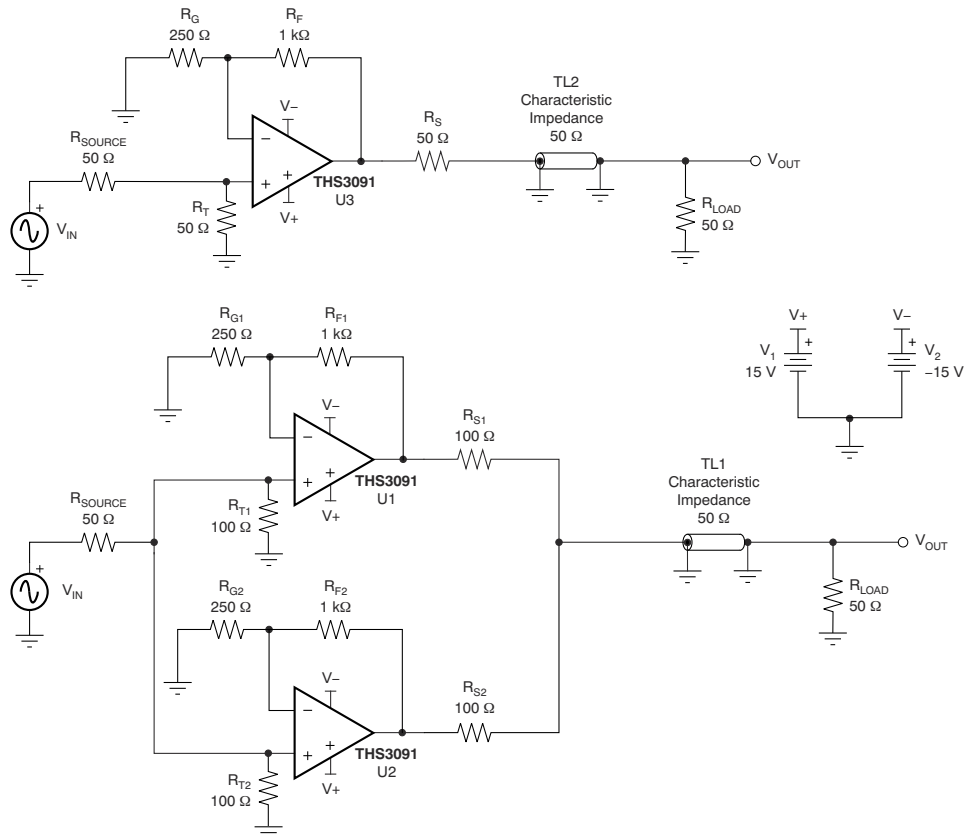
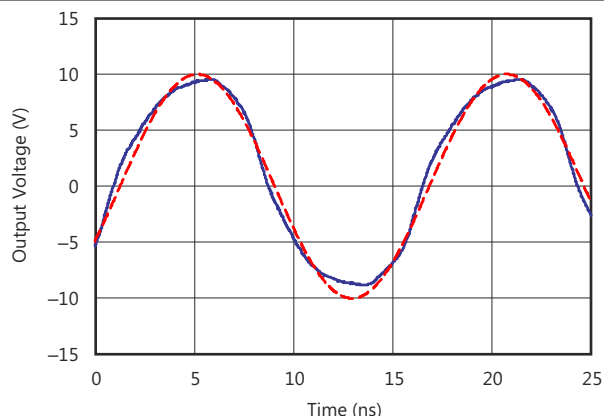
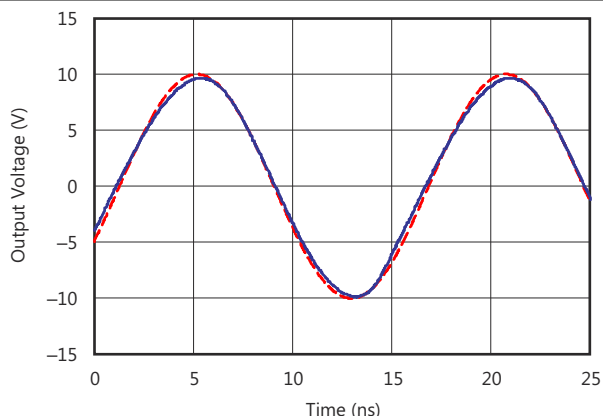

図 9-1. Reference THS3091 and THS3091 Load Sharing Test Configurations
FIG 9-4. 64-MHz Sine Wave Output (Gain = 5 V/V, Signal Amplitude Referred to Amplifier Output), Single THS3091 Circuit Configuration
FIG 9-5. 64-MHz Sine Wave Output (Gain = 5 V/V, Signal Amplitude Referred to Amplifier Output), Two THS3091 Amplifiers in Load Sharing Configuration
The fundamental concept of load sharing is to drive a load using two or more of the same operational amplifiers. Each amplifier is driven by the same source. 図 9-1 illustrates the schematic for this design. This concept effectively reduces the current load of each amplifier by $1/N$, where N is the number of amplifiers. For further details on the design and performance of this circuit, see the Reference Design for Implementation of the Load Sharing Concept for Large-Signal Applications.
As shown in Figure 9-1 for example, in a two-amplifier load sharing configuration with matching resistance driving a resistive load (RL), each series resistance is $2 \times R_L$ and each amplifier drives $2 \times R_L$. A convenient indicator of whether an op amp will function well in a load sharing configuration is the characteristic performance graph of harmonic distortion versus load resistance. Figure 7-9 and Figure 7-10 show more information. Such graphs can be found in most of TI's high-speed amplifier data sheets. These graphs can be used to obtain a general sense of whether or not an amplifier will show improved distortion performance in load sharing configurations.
Figure 9-1 shows two test circuits: one for a single THS3091 amplifier driving a double-terminated (50-Ω cable), and one with two THS3091 amplifiers in a load sharing configuration. In the load sharing configuration, the two 100-Ω series output resistors act in parallel to provide 50-Ω back-matching to the 50-Ω cable.
Figure 9-4 and Figure 9-5 show the 64-MHz sine wave outputs of the two configurations from Figure 9-1. While the single THS3091 output is clearly distorted in Figure 9-4, the output of the load sharing configuration in Figure 9-5 shows only minor deviations from the ideal sine wave.